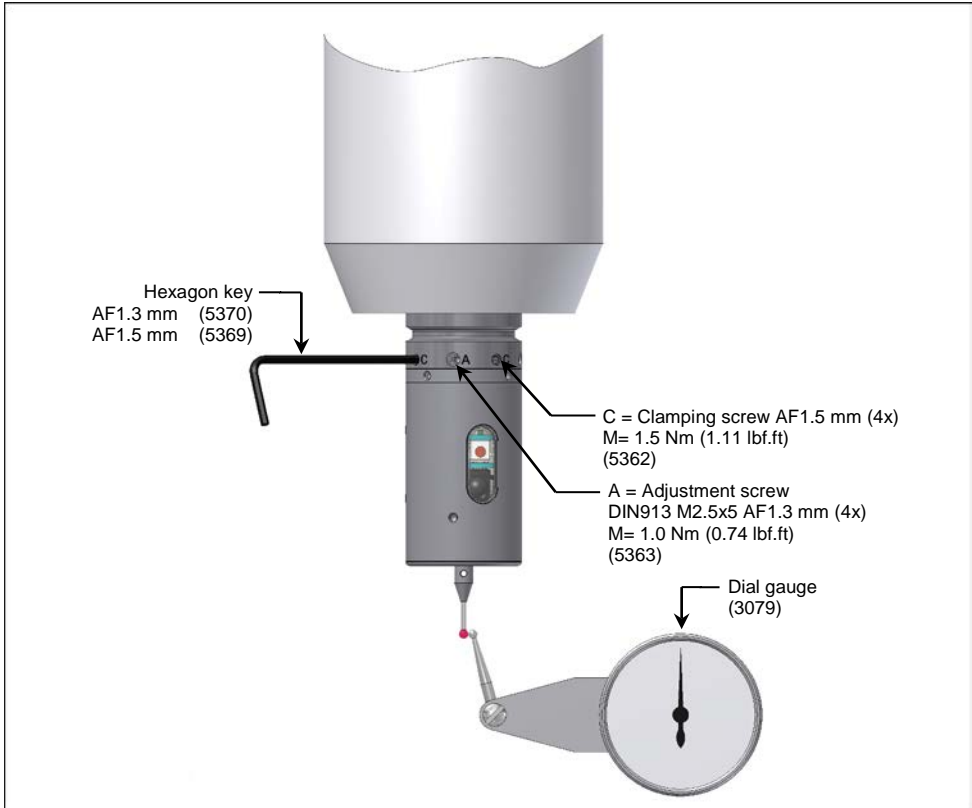

Fig. 8 Aligning stylus to spindle centre
1. Loosen clamping screws C (Fig. 8) (4x) then slightly retighten.
2. Adjust the probe with the adjustment screws A (Fig. 8) (4x) to within less than 20µm.
3. Tighten the clamping screws C (Fig. 8) (4x) a little more.
4. Adjust the probe with the adjustment screws A (Fig. 8) (4x) to within less than 5µm.
5. Tighten the clamping screws C (Fig. 8) (4x).
6. Tighten the adjustment screws A (Fig. 8) (4x) against each other.